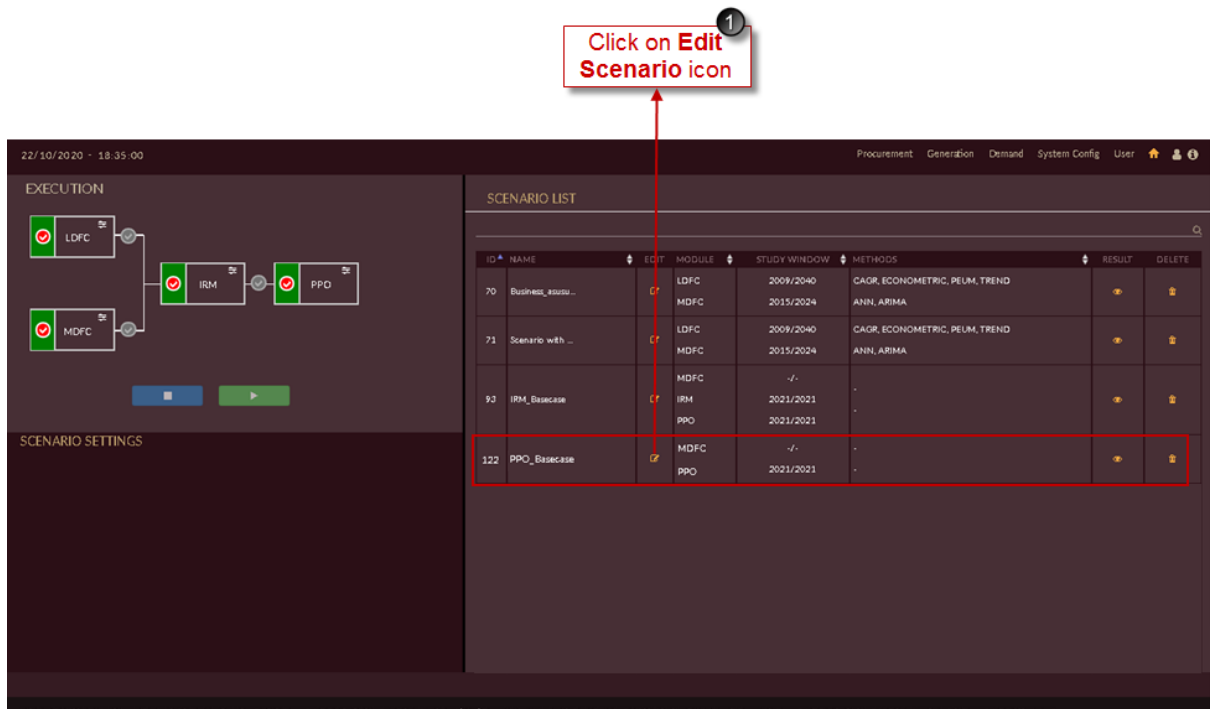

Figure 288. Select PPO Scenario to Execute
- Go to scenario list page as shown in Figure 288 and click on **Edit Scenario**  icon for the scenario which you need to execute. Here we are executing PPO Base case scenario.